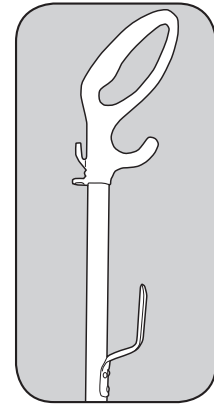

Fig. 1
- After first removing the handle screw, insert handle into the hole on top of the vacuum cleaner. Make sure that the cord hook on the handle is positioned to the back of the vacuum cleaner (Fig. 1).